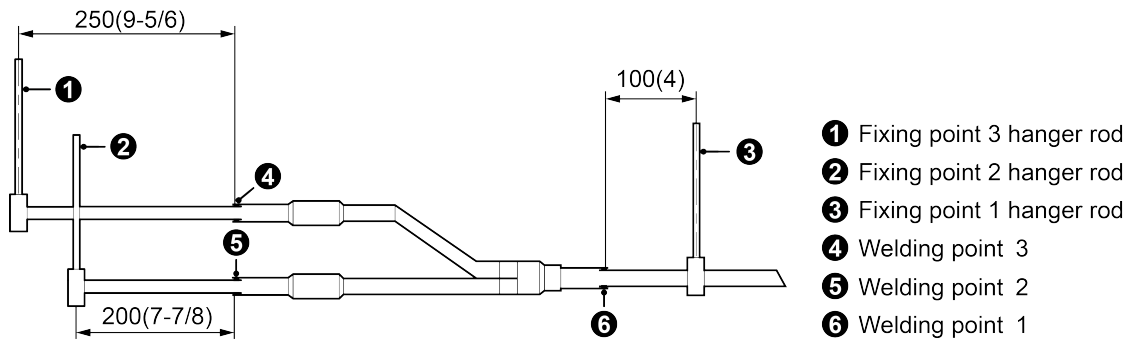

Fig.4.4.6
(3) There must be three fixing point for both horizontal and vertical installation of the Y-type manifold. See Fig.4.4.6.